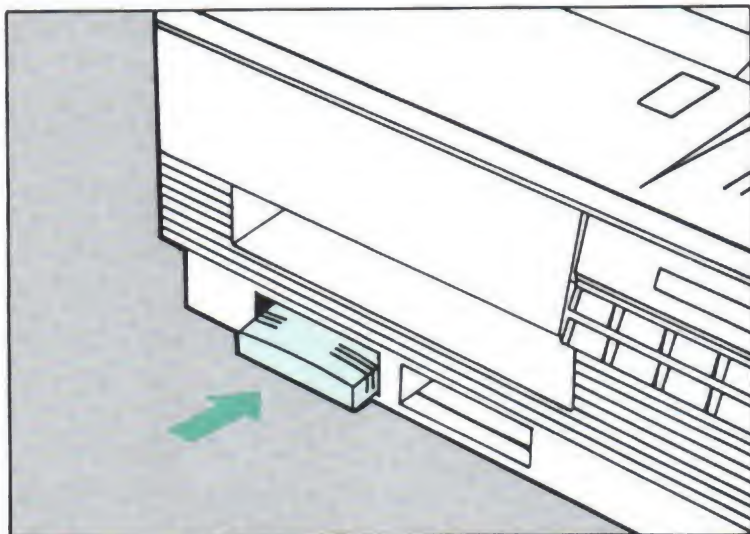

Figure 3-11. Inserting a Cartridge
3. Slide the cartridge into either slot on the lower front of the printer and push until the cartridge is firmly in place (Figure 3-11). You should hear and feel the cartridge snap into place.